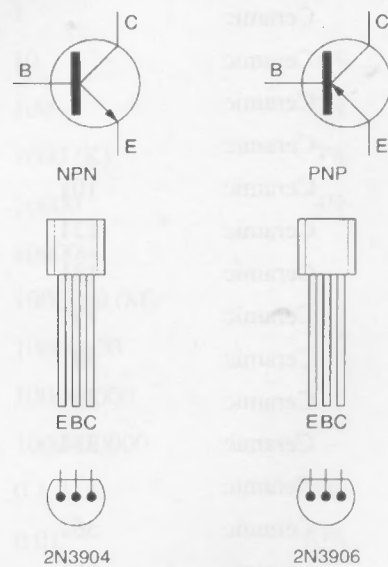

Figure 5-4 Lie Detector semiconductor pin-out diagram
Now refer to the chart depicted in Table 5-2; it illustrates the capacitor code often used to identify small capacitors. Large capacitors will often have their value printed directly on the body of the component. But in many instances, small capacitors will not have adequate room to print the actual value of the part on the body, so a three-digit code is used. The Lie Detector circuit has a single capacitor and it is a small disk capacitor which will be marked with (103). From the chart you will see that this capacitor has a value of 0.01 μ F. Next install capacitor C1, then solder it in place, and follow-up by removing the excess component leads. Now locate the two transistors and refer to the transistor pin-out diagram shown in Figure 5-4 for installation details. These transistors will have three leads: a Base, a